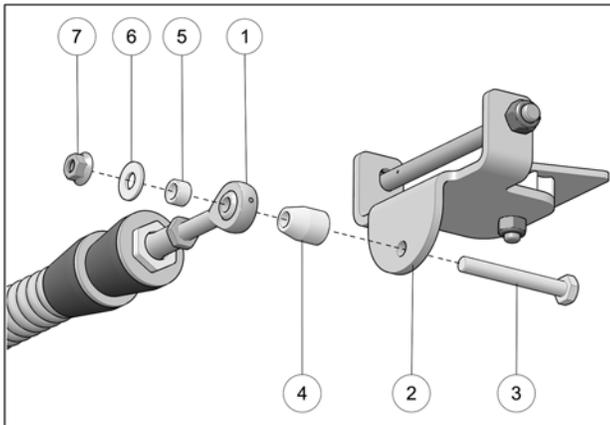

Fig. 9
- Attach stabilizing rod (1) to anchor bracket (2), using bolt (3), long spacer bushing (4), short spacer bushing (5), flat washer (6) and nut (7). Torque to 70 N•m [52 lb•ft]. See Fig. 9